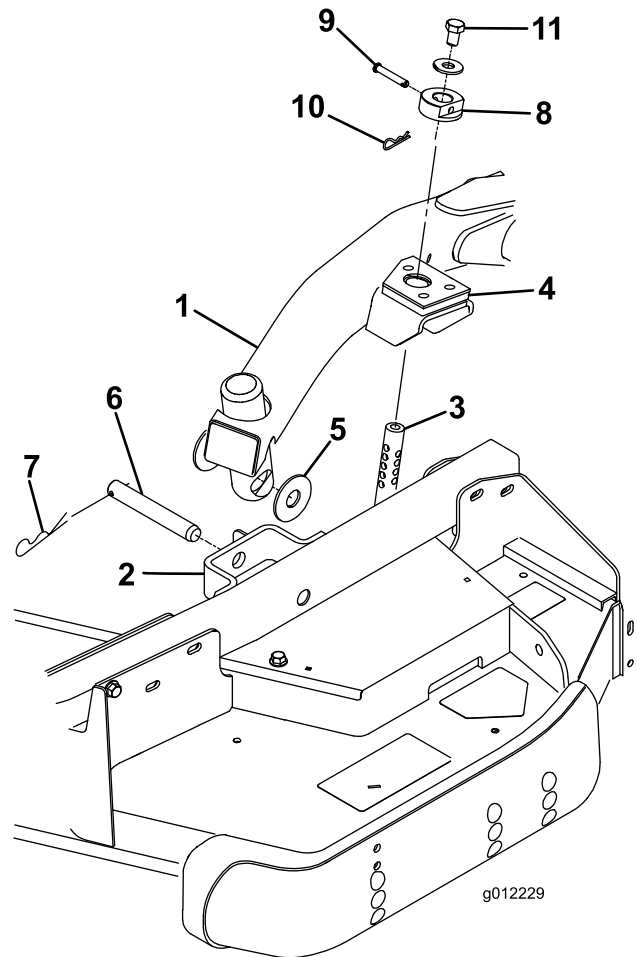

Figure 23
holes in the castor arm bracket and the height of cut rod can be inserted into the lift arm pads (Figure 23).
- Secure the lift arm to the castor arm with (2) thrust washers, a clevis pin and a hair pin cotter. Position the thrust washers between the lift arm and the castor arm bracket (Figure 23). Insert end of cotter pin into the slot in the castor arm tab to retain cotter pin.
- Install the height of cut collars onto the height of cut rods and secure with the clevis pins and hair pin cotters (Figure 23). Head of clevis pin to be positioned toward the front of the deck.
- Install a 1/2 x 3/4 inch bolt and a washer to top of each height of cut rod (Figure 23).